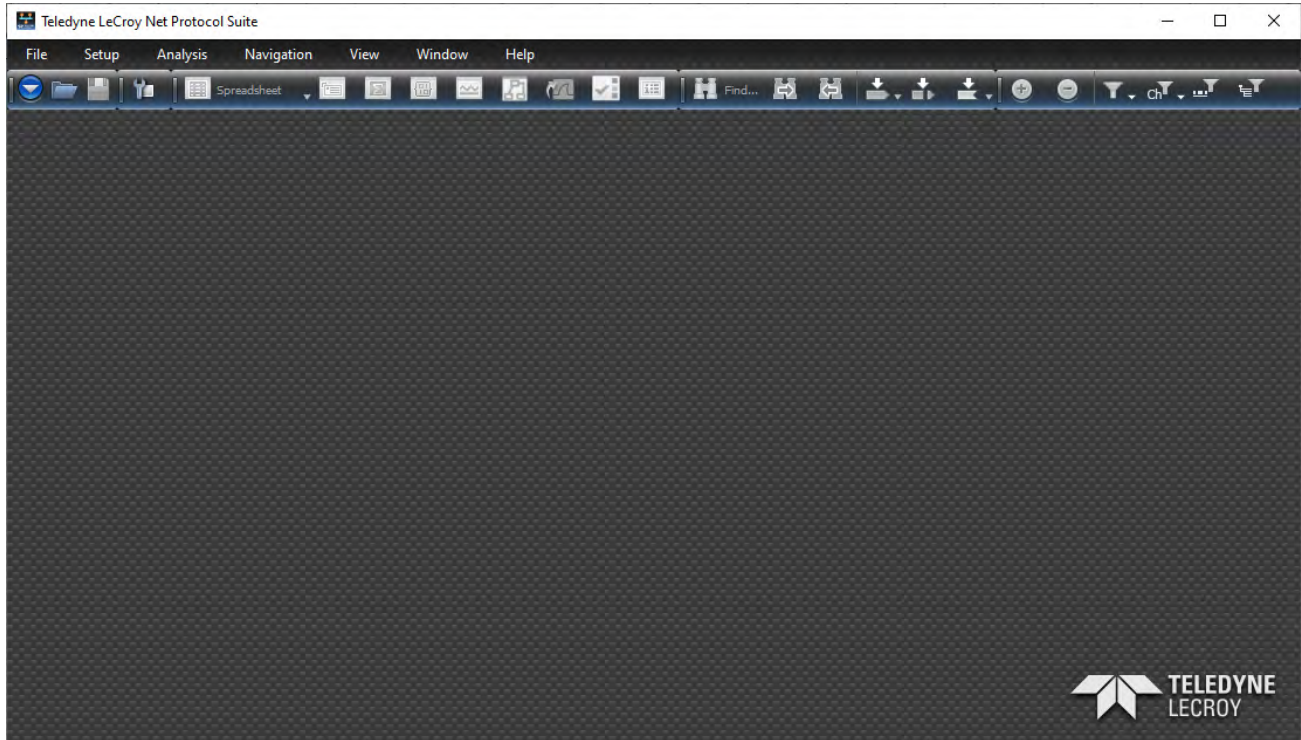

Figure 8.1: Net Protocol Suite Main Screen
1. Launch the NET Protocol Suite software. See Figure 8.1.